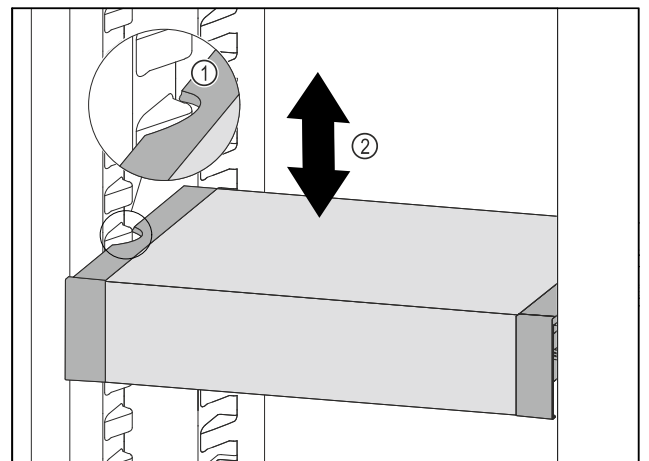

Fig. 86
- ▶ Pull VarioSafe forwards until the recesses in the side of the VarioSafe are at the level of the support rib in the refrigerator compartment. Fig. 86 (1)
- ▶ Move VarioSafe up or down in the refrigerator compartment until the desired height is reached. Fig. 86 (2)